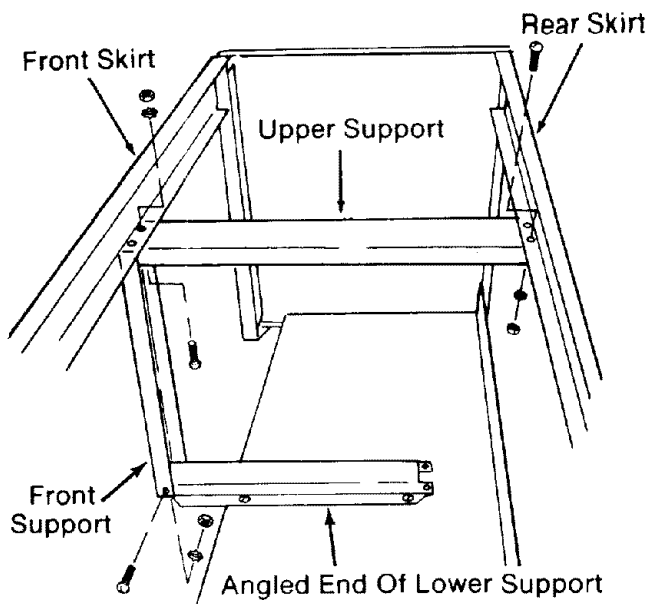

Fig. 58
43. Put the L-shaped assembly into place in the cabinet. The *upper support* should extend between the *front* and *rear* skirts, and the *front support* should extend between the *front skirt* and the angled end of the *lower support*. (Figure 58)